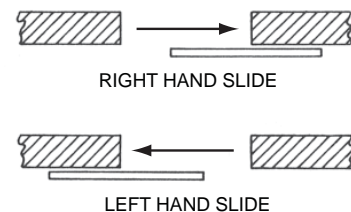

Figure 2. Single Slide Door
(1) SHIPMENT CHECK: To insure that all equipment is complete, check the components received with the material specifications sheets included with the installation packet supplied with the door.
(2) CHECK THE DOORS: After installation of door and track and before starting operator installation, inspect to ensure that the door is in good working condition, is rigidly supported and has no obstruction to block or retard its slide.
(3) REVIEW THE INSTALLATION DRAWINGS: The installation drawings show the layout of the door or doors, template drilling for the door and wall, and general terms used to describe components. Review of the drawings will familiarize you with the equipment. To determine the hand of a of single slide doors for operator mounting purposes, stand on the door side of the wall facing through the door opening. If the door slides to your right, it is a right-hand slide door, if it slides to the left, it is a left hand slide door (Figure 2). Mount equipment accordingly.